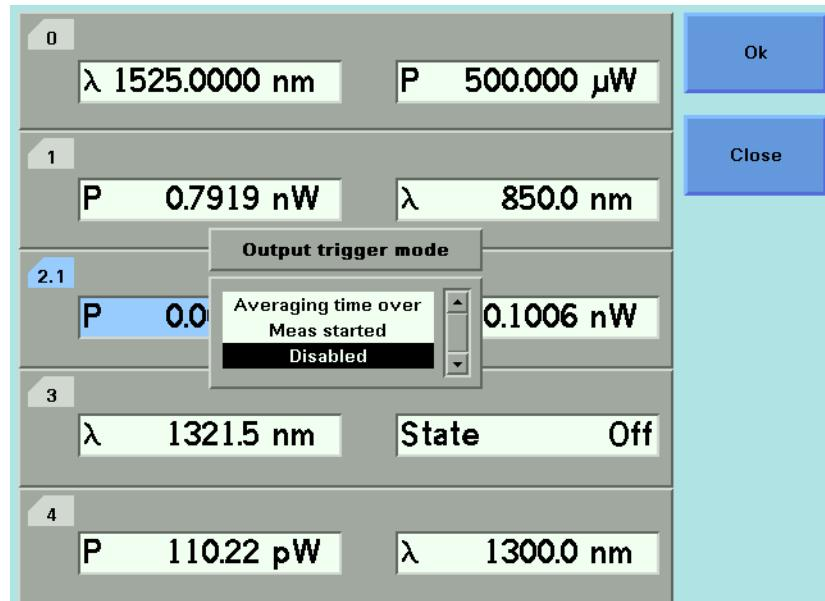

Figure 57 Output Trigger Mode
- 3** Move to <Output Trigger Mode>, by using the cursor key, and press *Enter*. You will see the screen in Figure 57 .